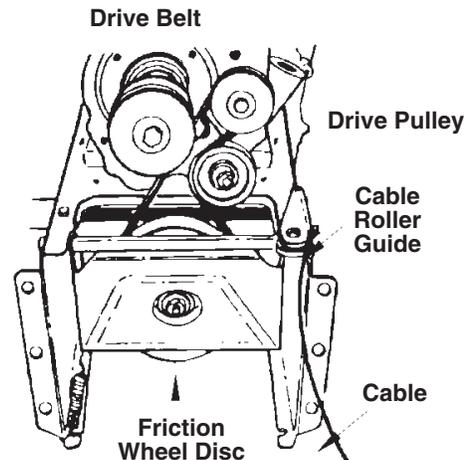

FIGURE 9.
**NOTE:** When reassembling the two halves of the unit, the auger drive cable must be routed through the cable roller guides as shown in figure 9.